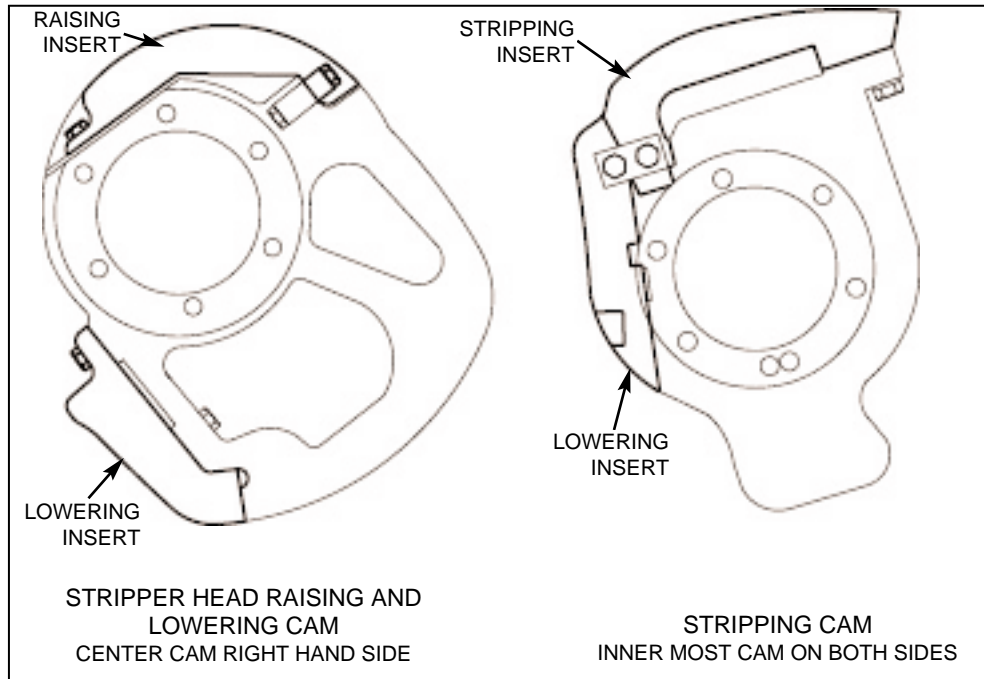

Figure 4.59 STRIPPING CAM INSERTS.
4.4.4 Remove the stripping cam insert from each side of the machine. This concrete unit is run without any stripping cam inserts (see figure 4.59).